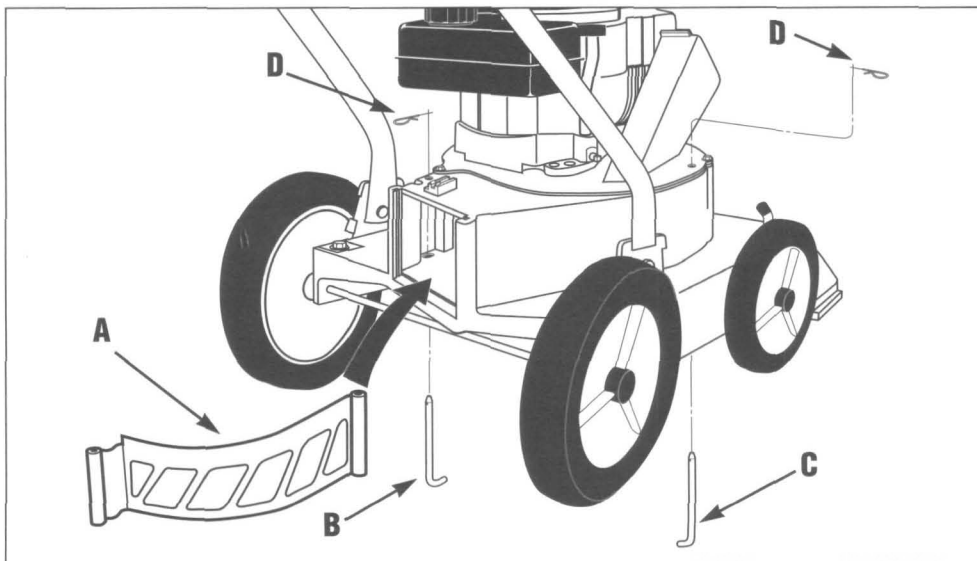

Figure 20: Shredder screen installation.
B. As shown in Figure 20, the screen (A) is held in place by two long rods (B and C) and hair pin clips (D).
C. To remove the rear rod (B), remove the collection bag or the blower deflector. Then, remove the hair pin clip and pull the rod out through the bottom of the deck.
D. To remove the front rod (C), use sturdy supports to prop up the right side of the machine a few inches. Then, remove the hair pin clip and pull the rod out through the bottom of the deck.
B. Remove the collection bag or the blower deflector. Remove the rods and hair pin clips which were stored on the shredder screen. Insert the screen into the processing chamber with the flat, angled end facing to the rear and the curve in the screen facing to the right. See Figure 20. Align the mounting holes in the screen with the holes in the deck.
C. Using sturdy supports, prop up the right side of the machine a few inches. Install the front rod (C) by inserting the rod up through the bottom of deck, into the screen mounting hole, and through the top of the deck. Test that the rod is through the screen by pulling on the screen – the screen should not move. Secure the rod with the hair pin clip.
D. Insert the rear rod (B) up through the bottom of the deck, into the screen mounting hole, and through the top of the deck. Make sure that the rod is in the screen by trying to move the screen from side to side. Secure the rod with the hair pin clip.